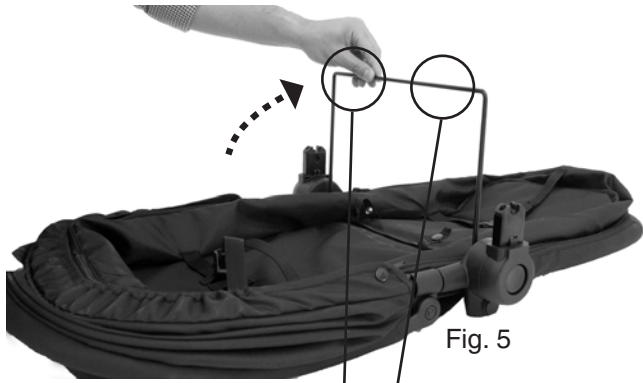

Fig. 5
- **To prepare seat unit:** Locate the support bar attached to the bottom of seat unit and lift so that the bar is vertical. (Fig. 5).